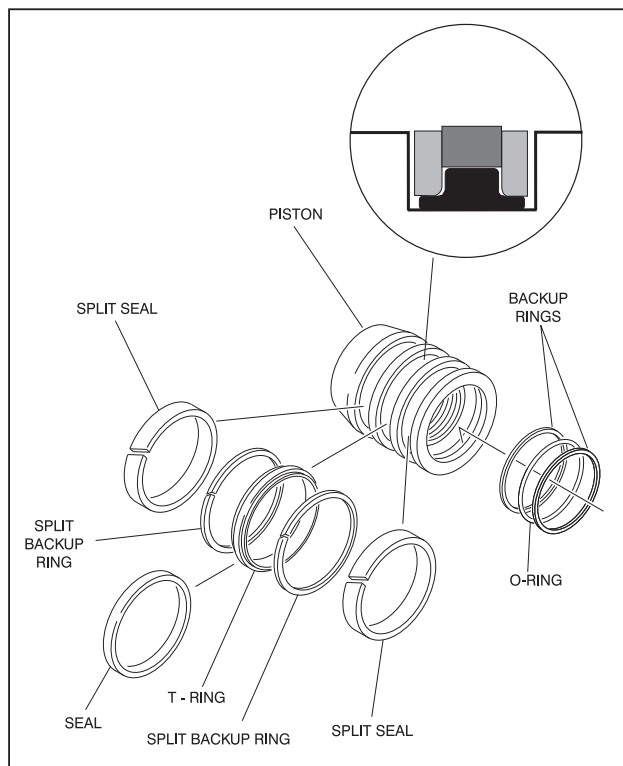

Figure 4-11. Piston Seal Kit Installation
NOTE: The backup rings for the solid seal have a radius on one side. This side faces the solid seal. [See magnified insert in (See Figure 4-11.)] The split of seals and backup rings must be positioned so as not to be in alignment with each other.
16. Place new guide locks and seals in the applicable outside diameter grooves of the cylinder piston. (See Figure 4-11.)